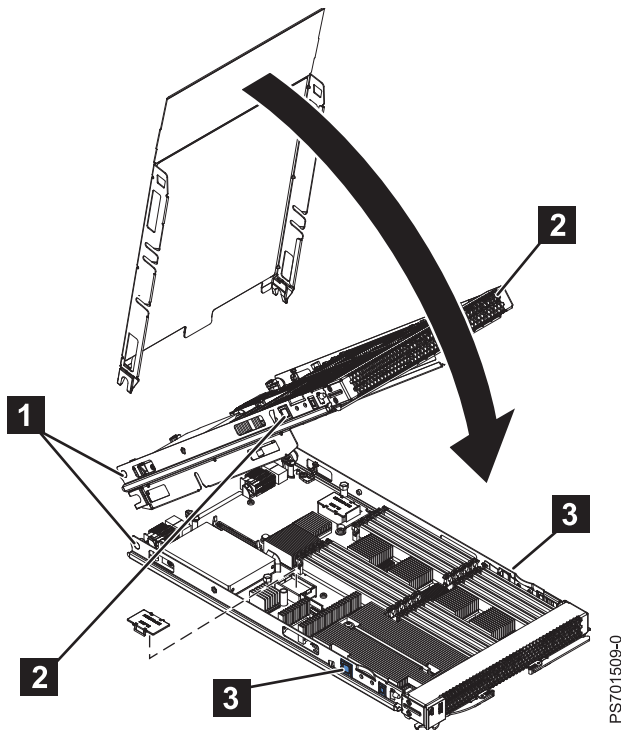

Figure 22. Installing the cover
2. Lower the cover so that the slots at the rear slide down onto the pins (**1** in Figure 22) at the rear of the blade server. Before you close the cover, verify that all components are installed and seated correctly and that you have not left loose tools or parts inside the blade server.